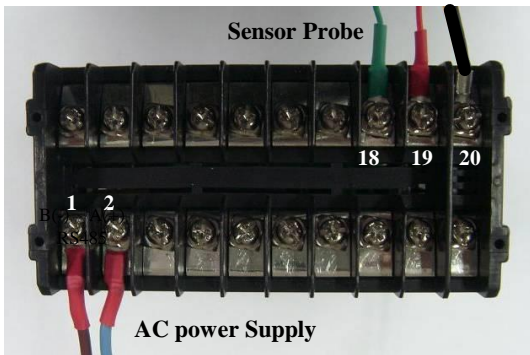

Fig 6. Connect diagram of MG-05
a. Connect AC power Terminal #1 and #2 and connect Sensor cable to terminal #18 (Green wire) #19 (Red wire) #20 (Black wire). Please refer to Fig 6.